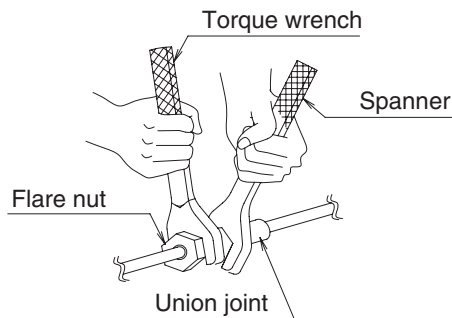

Fig. 10
- When connecting the pipings to the air conditioner, make sure to use a spanner and a torque wrench as shown in Fig. 10.